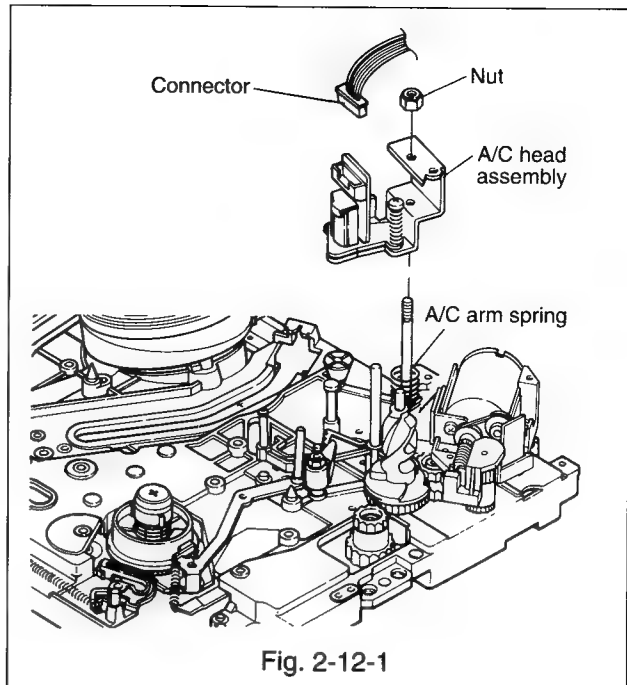

Fig. 2-12-1
2-12-1 Removal (Refer to Fig. 2-12-1, 2-12-2.)
- Disconnect the connector from the PCB-A/C HEAD.(Refer to Fig. 2-12-1.)
2-12-2 Installation(Refer to Fig. 2-12-1~2-12-3.)
(Refer to Fig. 2-12-1.)